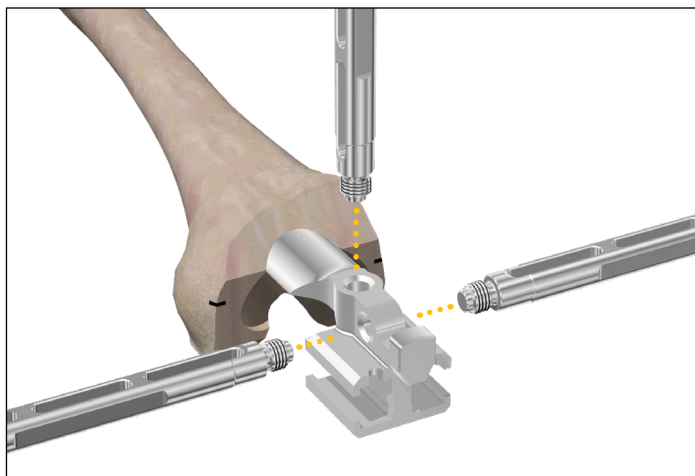

Figure 92
► **Note:** The guide provides three handle insertion options: lateral, medial, and anterior (**Figure 92**).